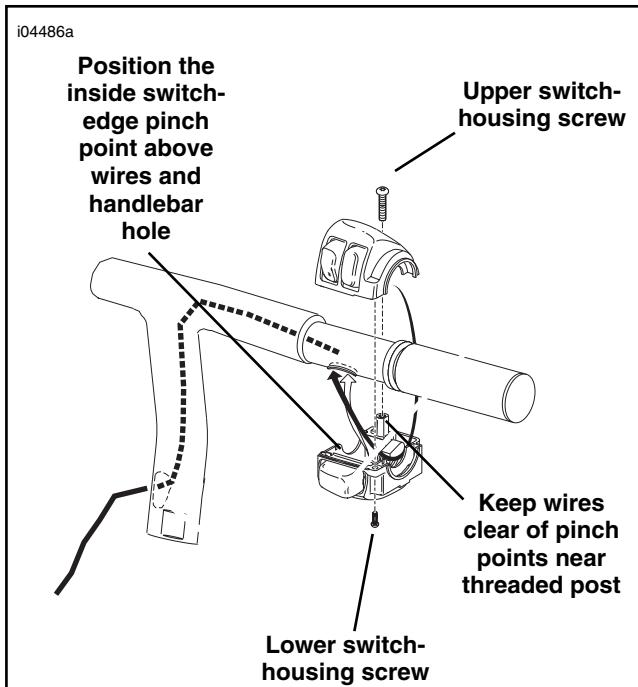

Figure 3. Switch-Housing wire routing
5. See Figure 3. Tie the end of the string from the switch-wire hole to the switch-wire bundle. Gently feed the wire bundle into the right-side wire hole and pull the bundle down through the handlebar and out the riser hole. Ensure the turn signal string stays in place as the switch-wire is fed through the handlebar. Tie the end of the string coming from the turn signal wire hole to the turn signal wire. Gently feed the wire into the hole and pull the wire through the handlebar and out the riser hole.
Avoid the pinch points shown in Figure 3. Pinch points in the switch housings can short-circuit or sever wires, which could cause loss of vehicle control resulting in death or serious injury.